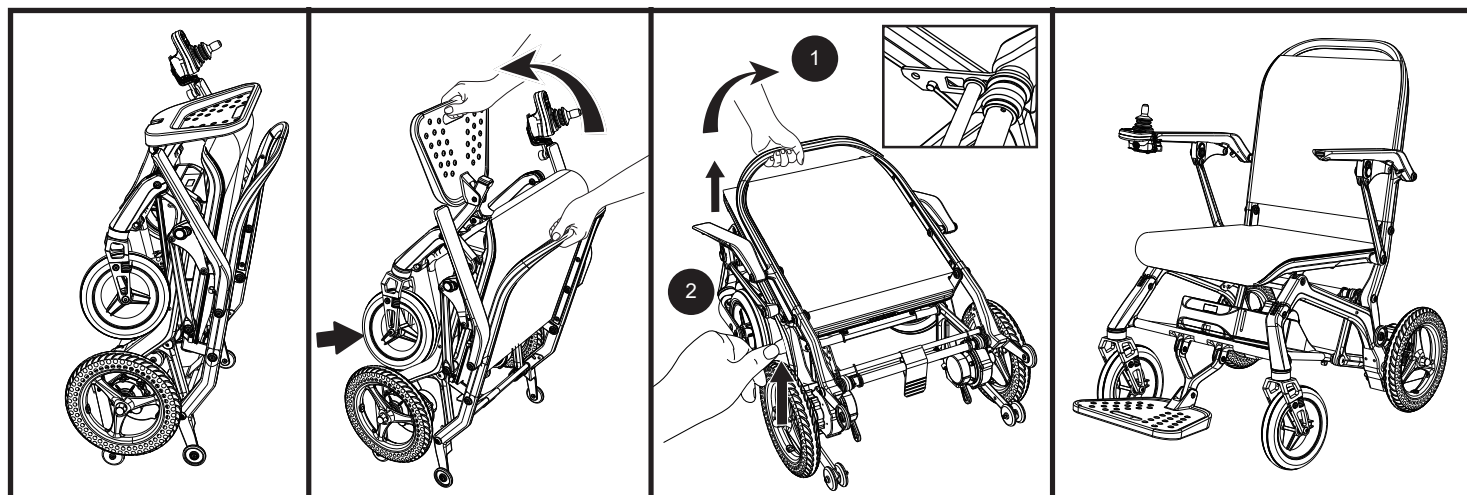

Figure 8. Unfolding the Jazzy® Ultra Light
1. Hold the backrest frame with your left hand and open the footrest with your right hand. **See figure 8.**